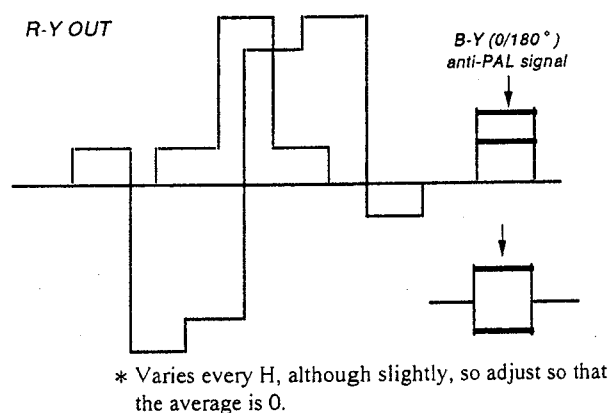

Fig. 21
- 4) Adjust **PHASE PAL NOR** so that the B-Y anti-PAL signal waveform is 0. (Fig. 21)